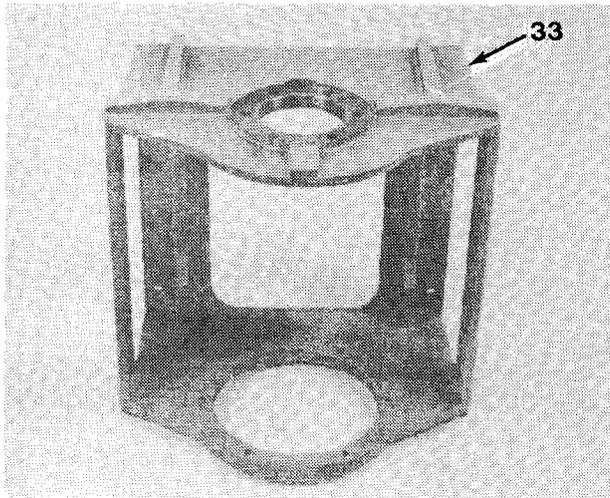

Figure 16-15
1. Place base (33, Figure 16-15) on side with bearing support end up.